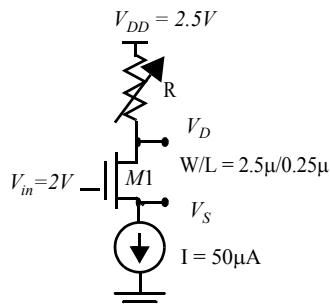

Figure 0.4 Test configuration for the NMOS device.
8. [M, None, 3.3.2] An NMOS device is plugged into the test configuration shown below in Figure 0.4. The input $V_{in} = 2V$. The current source draws a constant current of $50 \mu A$. R is a variable resistor that can assume values between $10k\Omega$ and $30 k\Omega$. Transistor M1 experiences short channel effects and has following transistor parameters: $k' = 110*10^{-6} V/A^2$, $V_T = 0.4$, and $V_{DSAT} = 0.6V$. The transistor has a $W/L = 2.5\mu/0.25\mu$. For simplicity body effect and channel length modulation can be neglected. i.e $\lambda=0$, $\gamma=0$.